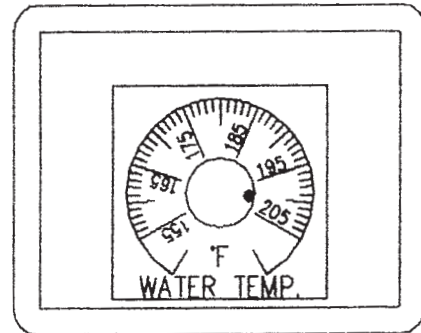

Figure 6
**Optional Solid State Thermostat:** This control maintains temperature within 3°F. The adjustable range is from 155°F to 205°F. See Figure 6.